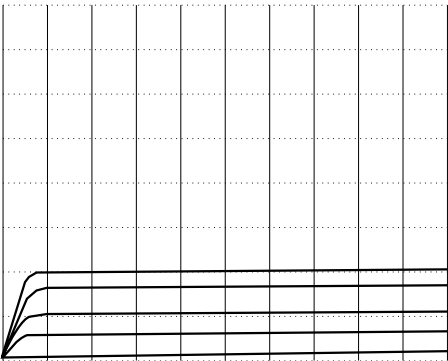

Figure 1
As shown in Figure 1, the upper edge of the grid represents the maximum value of the test current (I_C , I_D) according to the selected range ($I_{max} = 200mA / 20mA / 2mA$).
5. Press the DUT switch **(14)**. Five curves (see Figure 1 or 2) now will be visible on the screen.